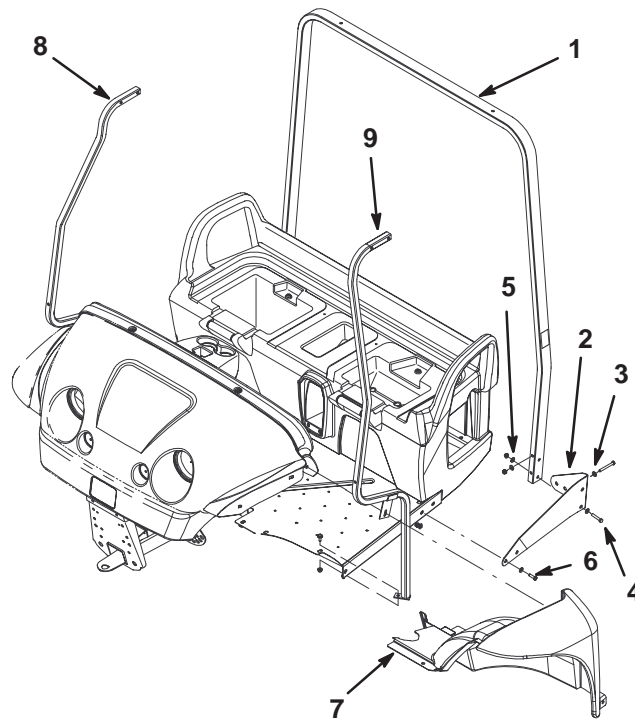

Figure 1
- A. Loosely attach the support brackets to the rear support tube with 8 screws, 4 (5/16 x 2-3/4 in.) and 4 (5/16 x 1-3/4 in.); 16 flat washers (5/16 in.); and 8 flange nuts (5/16 in.) (Fig. 1).
- B. Loosely attach the support brackets to the vehicle with 8 screws (5/16 x 1 in.), 16 flat washers (5/16 in.), and 8 flange nuts (5/16 in.) (Fig. 1).
3. Remove the rear bolt that holds the front fender to the dash and front frame support on each side of the vehicle. Do not remove the fenders from the vehicle (Fig. 1).
4. Slide the slotted bracket on the front support between the fender and vehicle. Loosely attach the front supports to the floor of the vehicle using the existing hardware on the vehicle (Fig. 1).